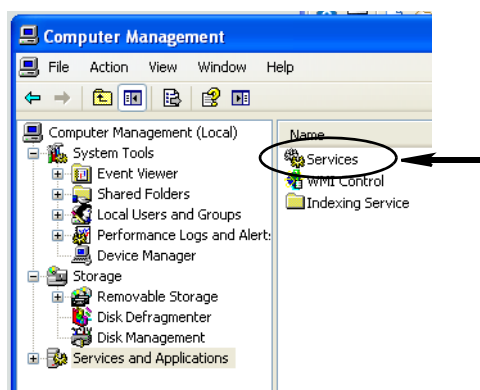

FIG. 36
- c. Double-cliquez sur "Services" (FIG. 36).